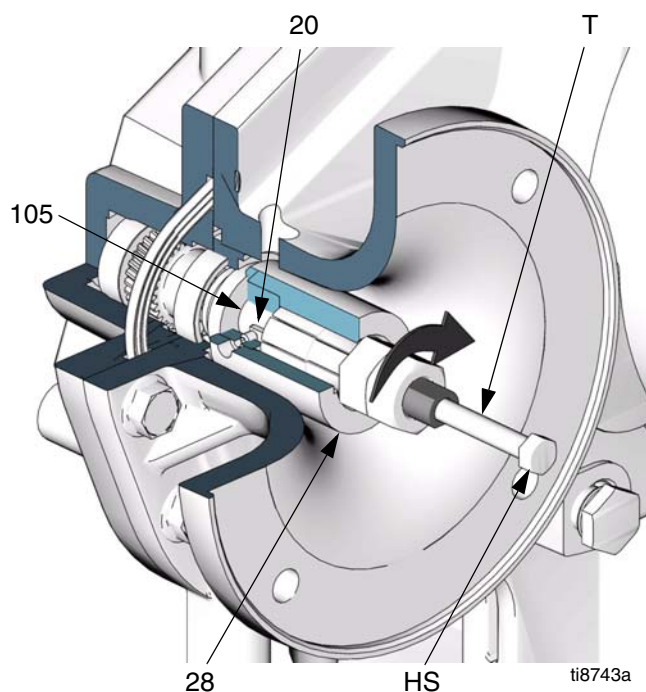

FIG. 15. Motor Coupler Removal
3. While one person supports the motor (19), remove the screws (37). Pull the motor away from the gear reducer.
4. See FIG. 15. Loosen both setscrews (31). Insert the coupler removal tool (T) into the coupler (28). Turn nut clockwise until tight, then pull the coupler off the gear reducer input shaft (105) by turning hex-head screw (HS) clockwise.